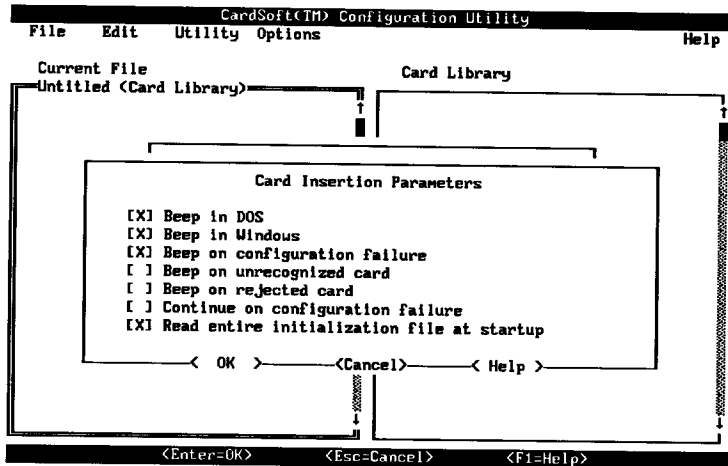

Figure 7 Card Insertion Parameters Menu
- 4 When you are finished configuring the port information for the card, select **Card Insertion Parameters**. The Card Insertion Parameters screen appears (see *Figure 7*).